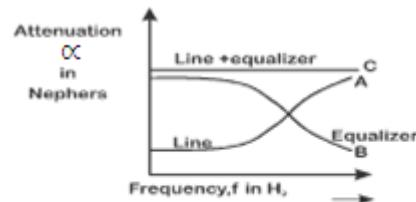

Fig.1.13 Frequency reponse of equalizer
- ❖ The equalizer will then have characteristics as shown in fig 1.13.
- ❖ The curve(C) shows that attenuation is almost constant at all frequencies.